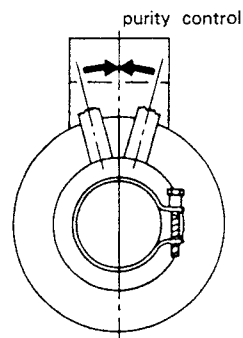

Fig. 2.
2. Loosen the deflection yoke mounting screw, and set the purity control to the center as shown in Fig. 2.